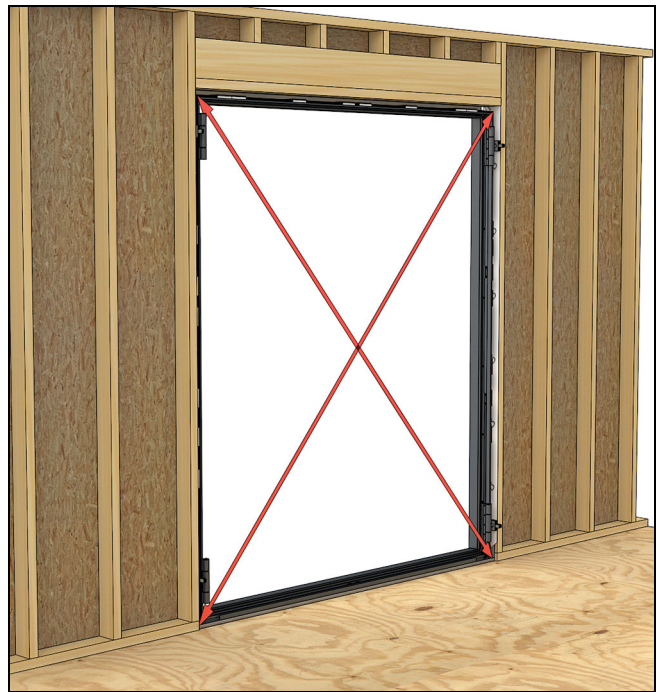

Figure 45
10. Measure diagonals to obtain a square frame. Adjust screws and shims accordingly. Diagonals should be within 1/16". See Figure 45.